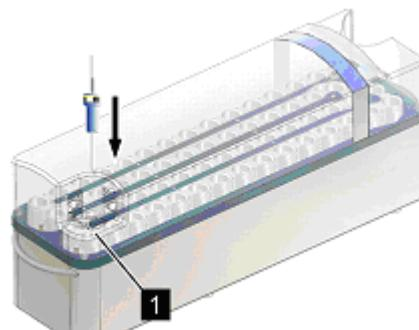

Figure 9.14 Operator Access Position
- Insert the sample into the **Operator Access Position** (Figure 9.14/1).